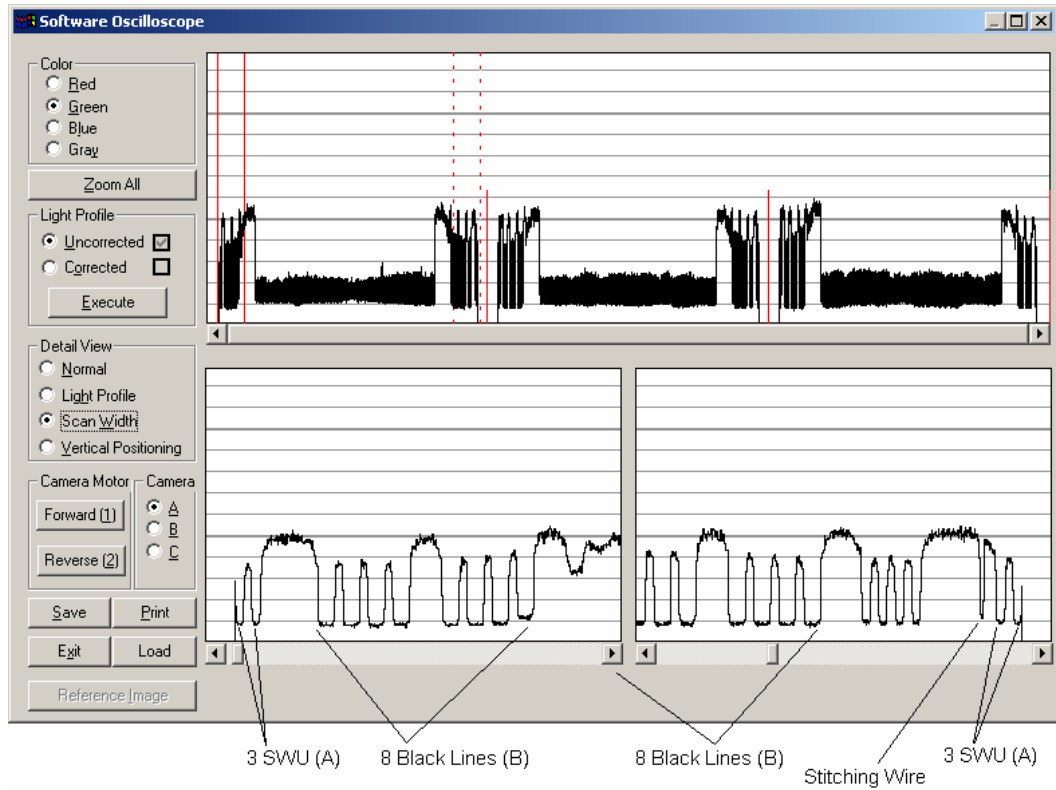

Fig. 4-23 CHROMA Tx 40, CRYSTAL Tx 40, Scan-Width, Camera A
- Fig. 4-23 CHROMA Tx 40, CRYSTAL Tx 40, Scan-Width (A), page 104